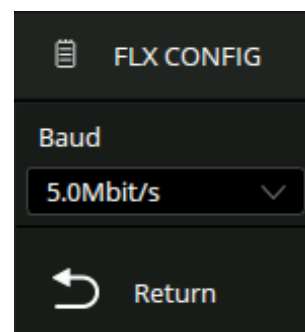

Figure 10.28 FlexRay CONFIG
1. The **FLX CONFIG** menu will be displayed. (Figure 10.28)